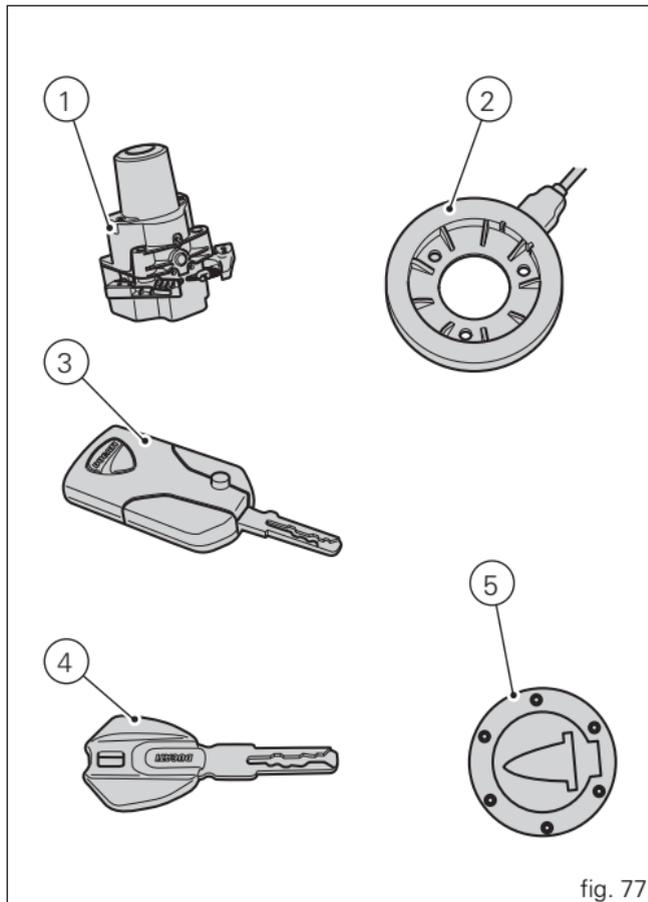

fig. 77
The “Hands free” lock (1, fig. 77) is located on the front of the tank. The door must be removed to access it (2).
Key-Off consists in turning off the hands free system and all electronic devices, and makes sure the engine is turned off. Key-On is done using the button (6) on the handlebar on the right switch or using the emergency button (7) on the Hands free lock (1, fig. 77).
Key-On can only occur in the presence of one of the two keys (3, fig. 77) or (4, fig. 77) or using the pin code.
Key-Off can also occur without a key (3, fig. 77) or (4, fig. 77).
When the battery is discharged, the active key (3, fig. 77) acts like a passive key (4, fig. 77). The instrument panel displays the discharged battery status.
A Key-On can be performed by pressing the red key (6) on the handlebar in the HANDS FREE ON/OFF position and in the presence of the active key (3, fig. 77).
The active key (3, fig. 77) has a range of approx. 1.5 m, therefore it must be located within this range.
Key-Off can be performed by pressing the red key (6) on the handlebar in the HANDS FREE ON/OFF position. It can be done also without the key (3, fig. 77) only if the motorcycle speed is equal to zero.
Key-On can be performed by pressing the button (7) on the Hands free lock (1, fig. 77) and with the presence of the active key (3, fig. 77).
Key-Off can be performed by pressing the button (7) on the Hands free lock (1, fig. 77), also without the key (3, fig. 77).
A Key-On can be performed by pressing the red button (6) on the handlebar in the HANDS FREE ON/OFF position and in the presence of the passive key (4, fig. 77).
The passive key (4, fig. 77) has a range of a few cm, therefore the key (4, fig. 77) must be positioned near the antenna (2).
Key-Off can be performed by pressing the red button (6) on the handlebar in the HANDS FREE ON/OFF position. It can be done also without the key (4, fig. 77) only if the motorcycle speed is equal to zero.
Key-On can be performed by pressing the button (7) on the Hands free lock and with the presence of the passive key (4, fig. 77).
The passive key (4, fig. 77) has a range of a few cm, therefore the key (4, fig. 77) must be positioned near the antenna.
Key-Off can be performed by pressing the button (7) on the Hands free lock (1, fig. 77), also without the key (4, fig. 77).
Key-On can be performed by pressing the button (7) on the hands free lock (1, fig. 77) without the presence of the keys (3, fig. 77) and (4, fig. 77) and entering the pin code on the dashboard.